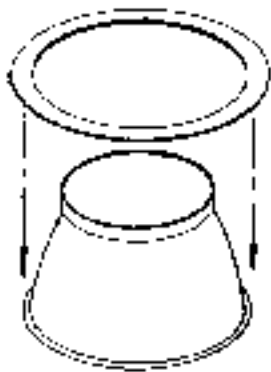

Fig. 9
9. Install reflector/trim. (Fig. 9 & 10)
1. Place ring over reflector. (Fig. 9)